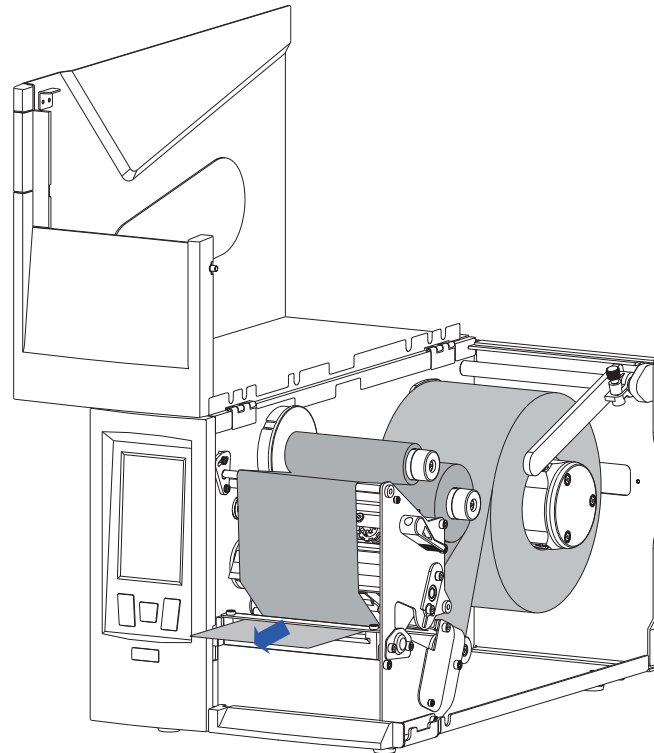

Figure 2-19 Thread the Media
4. Thread the media along the Media Path as shown in Figure 2-4, loaded media is shown in Figure 2-19.